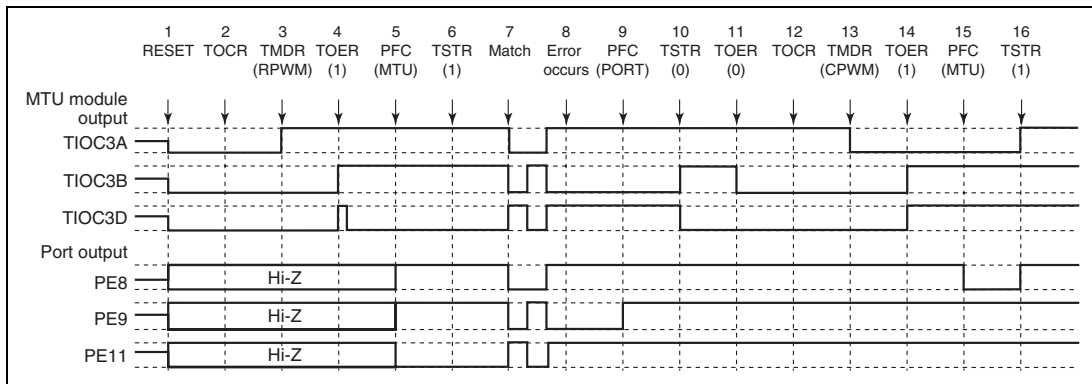

Figure 8.111 Error Occurrence in Reset-Synchronous PWM Mode, Recovery in Complementary PWM Mode
(28) Operation when Error Occurs during Reset-Synchronous PWM Mode Operation, and Operation is Restarted in Complementary PWM Mode: Figure 8.111 shows an explanatory diagram of the case where an error occurs in reset-synchronous PWM mode and operation is restarted in complementary PWM mode after re-setting.